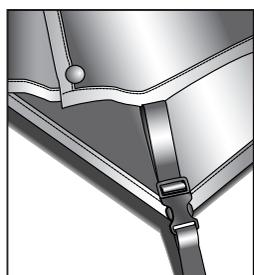

Figure 6: Fly Clip
U. At each pole end, points A, B, C, & D, there are 1" side-release "Fly Clip" buckles. Clip these buckles into their corresponding mates on the tent stake loops and pull the straps until the fly is taut (Figure 6). By clipping the blue webbing strap on the rainfly to a blue webbing strap on the body, you are guaranteed a fast, proper rainfly setup every time. Try to align the seam lines on the fly with the poles underneath. Stake out the fly vestibules away from the tent body at points V, X, & I. For maximum stability in high winds, guy out the tent at points J, K, L, M, N, & O.